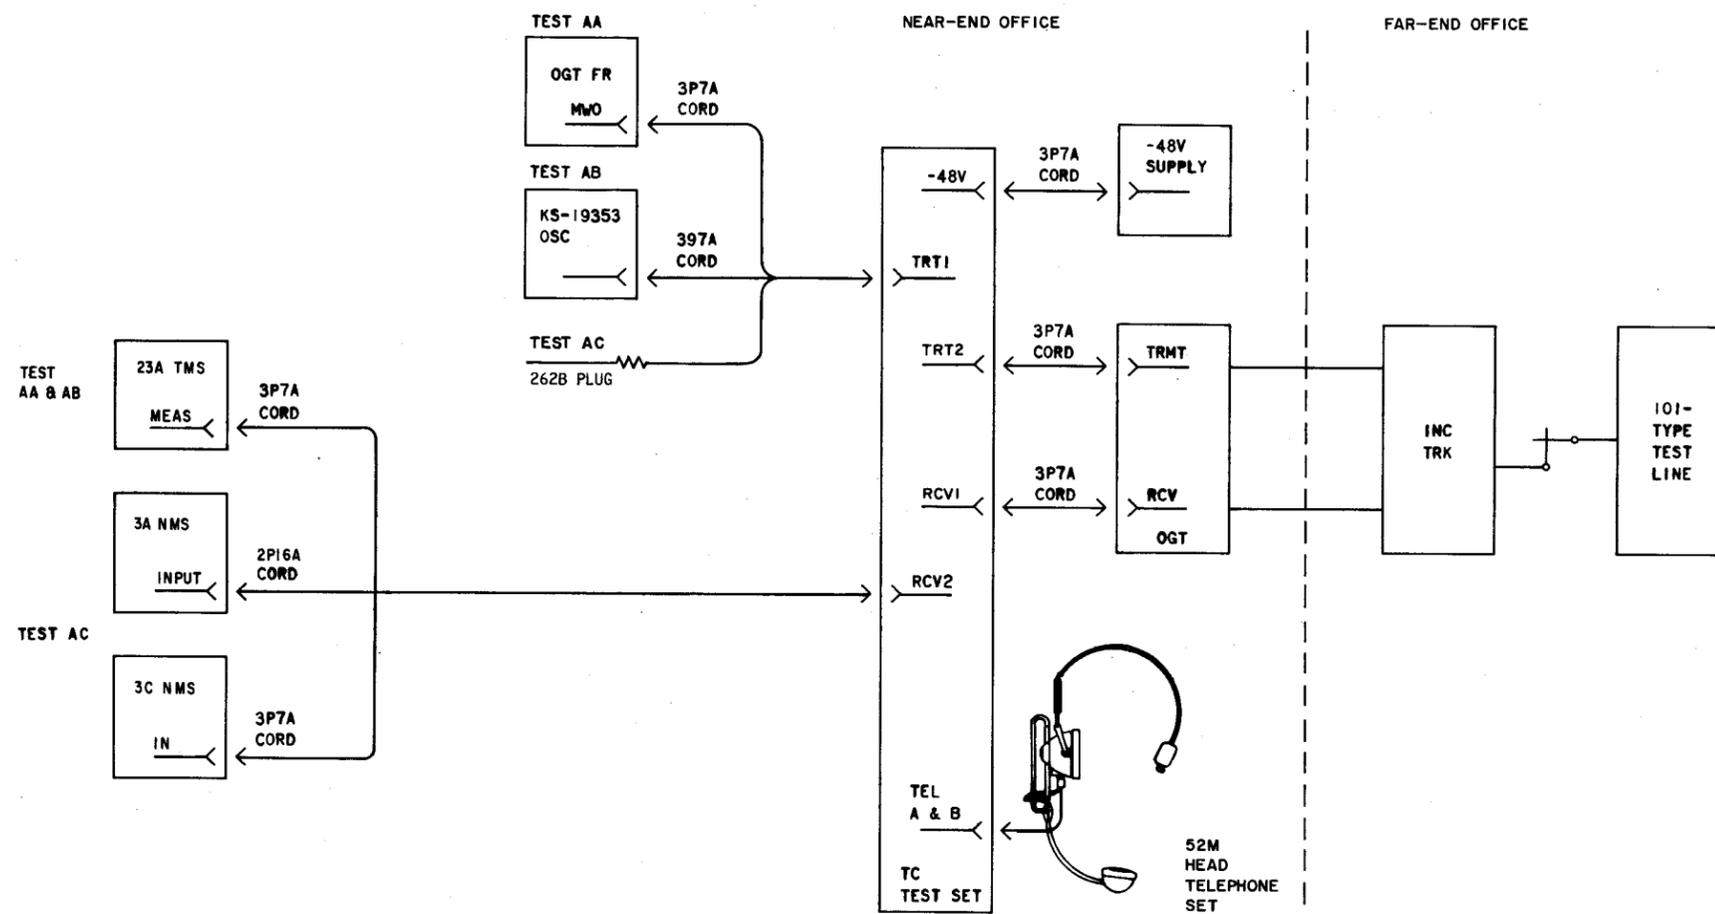

Fig. 3—Test Connections—Tests AA through AC
**AC. Message Circuit Noise Measurement to 101-Type Test Line—Originating End Procedures (Fig. 3)**